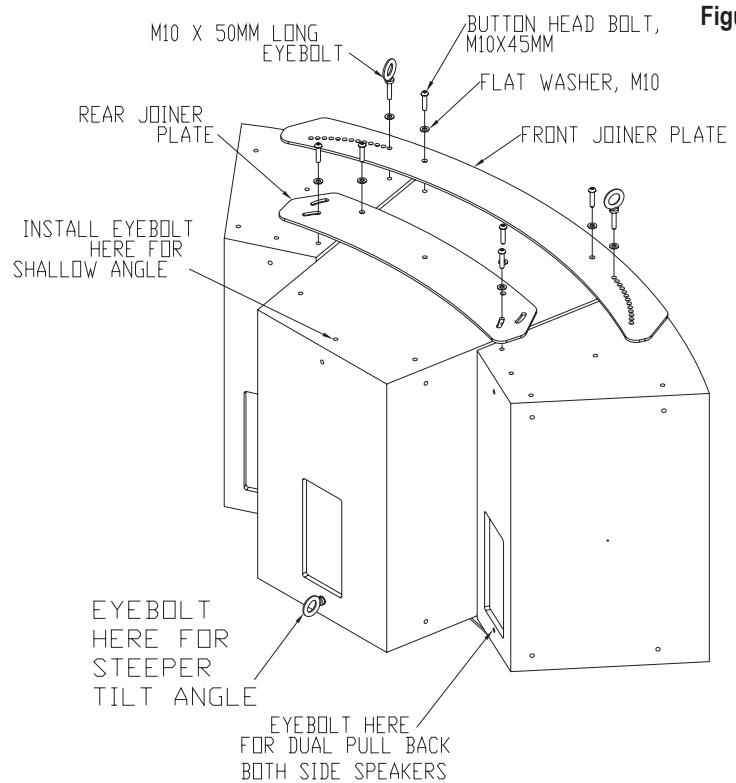

Figure 3
Step 7: Install the front joiner plate on the two front rigging inserts of the EVF1181S subwoofer using the provided screw and washer. Use the same holes used on the bottom front joiner plate for the selected splay angle (Figure 2) then secure the EVF1152S side speakers to the front joiner plate using the provided M10 x 50mm long eyebolt and washers (Figure 3). *When all plates are in positioned, tighten all screws permanently.*
Step 8: For steeper tilt angles, install the M10x 35mm long eyebolt and washers on the bottom rear insert of the EVF1181S subwoofer (Figure 3 note). For dual pull back install the M10 x 35mm eyebolts on the bottom rear inserts of the EVF1152S side speakers.